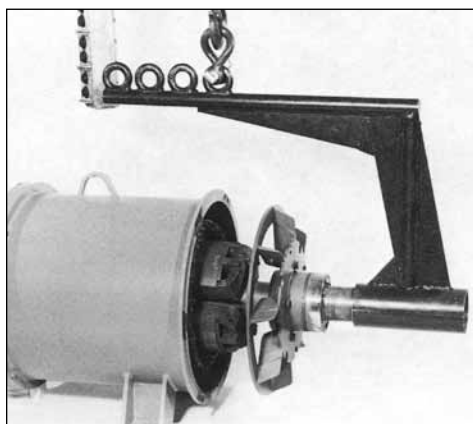

Figure 6-58
2. Using a rotor lifting fixture and a suitable hoist, carefully install the rotor assembly into the main stator assembly through the drive end (Figure 6-58). Carefully feed the rotor leads through the front end bracket shaft hole as the rotor is installed.